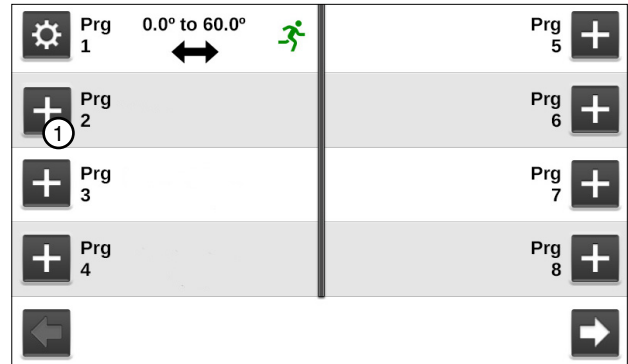

Figure 149-1 1. Program 2 New Program
1. Push **Menu**, **Programs**, and **Sector Programs** to view the Sector Programs screen. Refer to Figure 149-1.